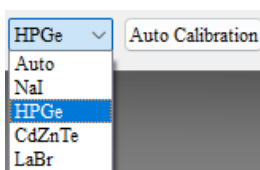

Fig.43: Select the detector type dropdown box.
- Before automatic calibration, you can choose 'Auto' or select a specific detector type's spectrum from the dropdown, as shown in Fig.43. It is recommended to choose a specific detector type because the software is not intelligent enough to identify the type of detector spectrum.